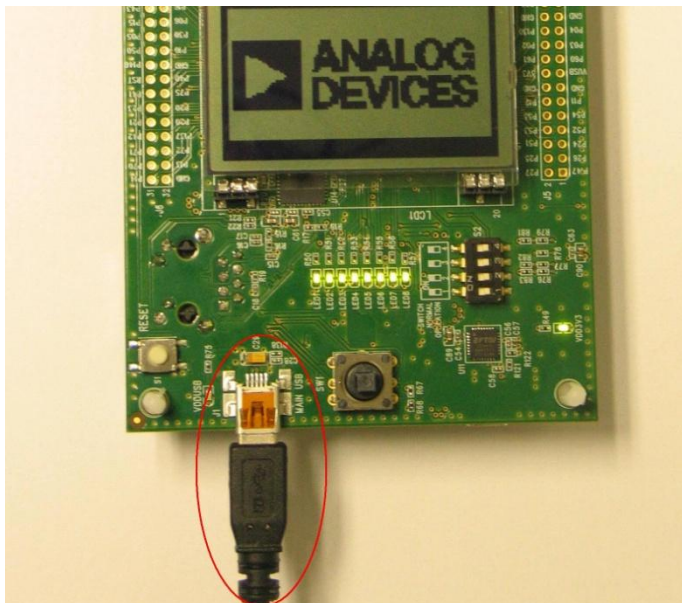

Figure 50
1. Once the required software is installed, plug the USB cable into the **"MAIN USB"** port (Figure 50) on the ADF7xxxMB4z and the other end to the PC on which the software is installed.